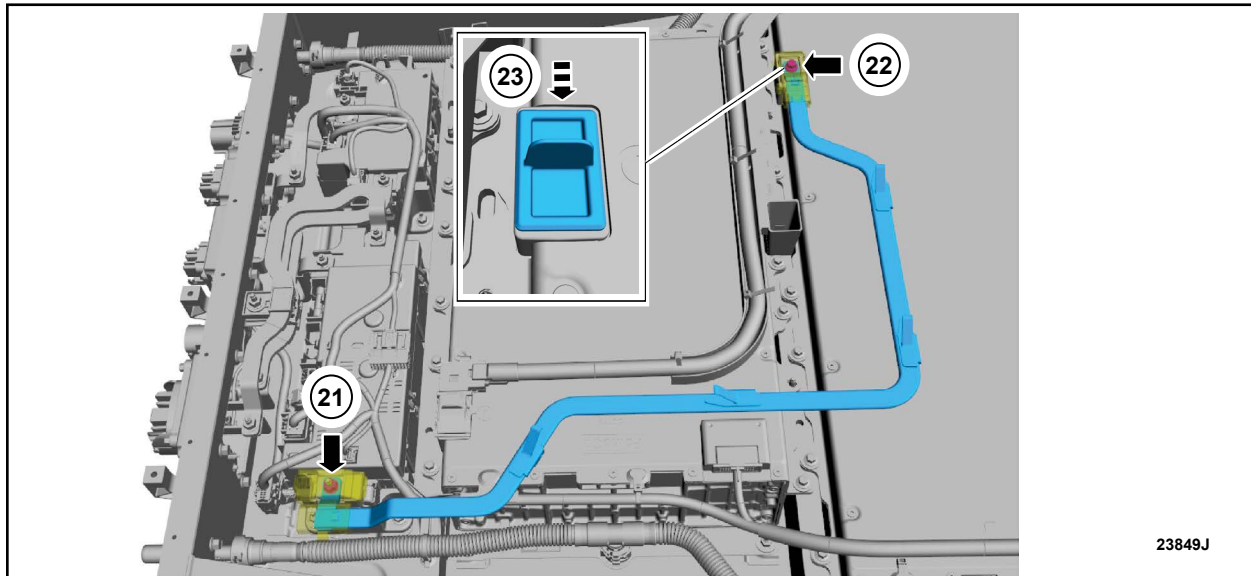

FIGURE 9
21. Open the terminal cover and remove the bus bar nut. See Figure 9.
22. Open the terminal cover, remove the bolt and the bus bar. See Figure 9.
23. Install the battery module terminal cover. See Figure 9.